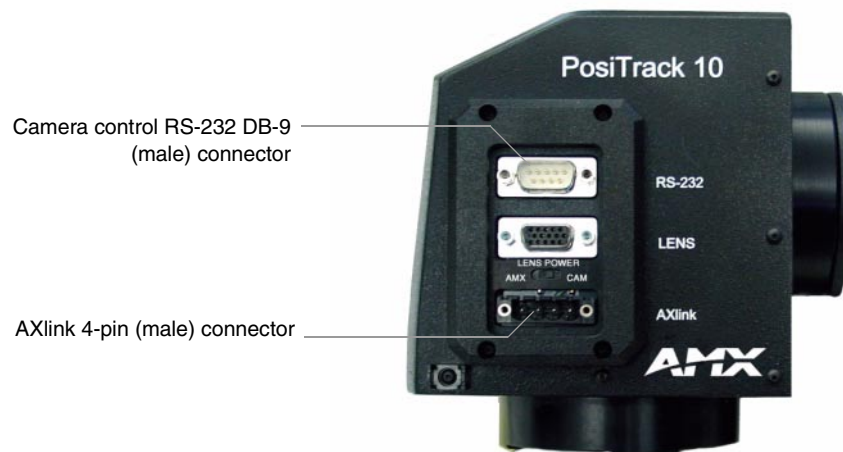

FIG. 10 Side view of the AXB-PT10 showing the location of the AXlink connector.
13. Support the weight of the camera cables with a wire tie attached to the wire tie mount on the lower corner of the face of the AXB-PT10 (FIG. 10).
Each PosiTrack Controller has an RS-232 DB-9 connector, lens control DB-15 high-density connector, and an AXlink 4-pin connector. Always provide enough cable to accommodate the desired range of motion for the PosiTrack unit and its camera/lens. The Lens Power switch on the control panel (FIG. 10), removes any power noise on the incoming video by turning power On/Off to Pin 1 of the DB-15 lens control connector when the camera/lens is powered from a separate supply.